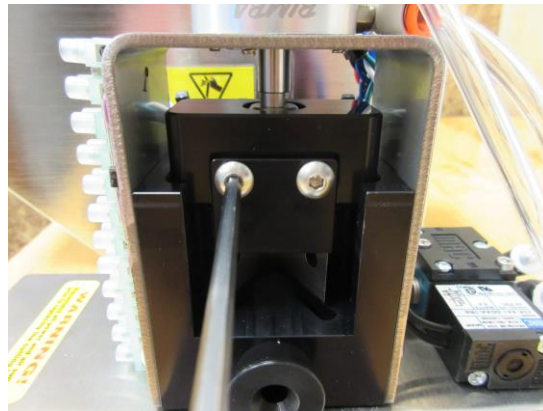

Figure 5.1.2
- You now have access to the insert which can be carefully removed by removing the 2 screws holding it in with a 1/8" hex wrench. Take this opportunity to blow out any debris found within the cutter housing. *Figure 5.1.2*